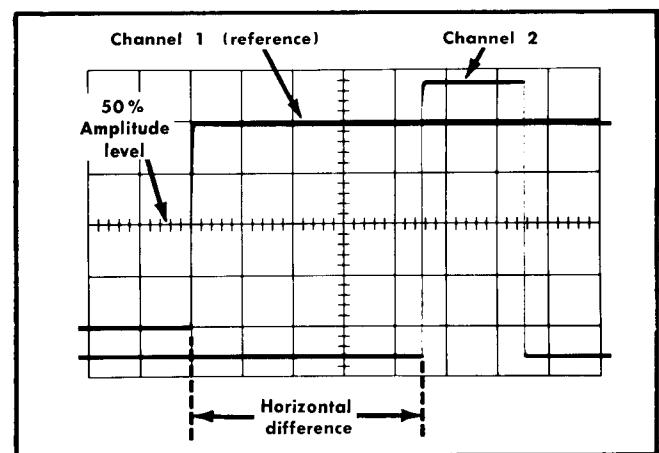

Fig. 2-23. Measuring time difference between two pulses.
11. Measure the horizontal difference between the Channel 1 waveform and the Channel 2 waveform (see Fig. 2-23).
Example. Assume that the TIME/DIV switch is set to $50 \mu\text{s}$, the MAG switch to $\times 10$ and the horizontal difference between waveforms is 4.5 divisions (see Fig. 2-23).